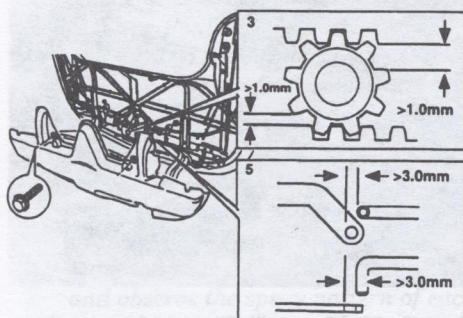

Figure 2: Adjusting 5th bow latch motor
3. Measure with a 1.0mm feeler gauge that there is play between the last gear tooth and the blank part of the upper and lower gear rack. See Figure 2.